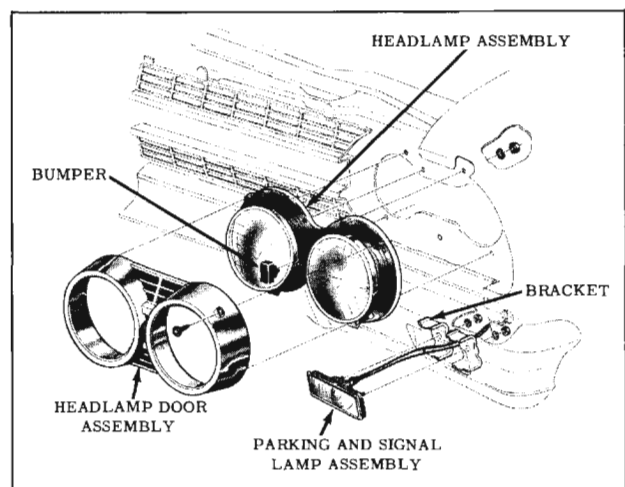

Fig. 14-139 Headlamp Door Removal
1. Remove headlamp door. (Fig. 14-139)
3. Remove 2 retaining ring attaching screws, but DO NOT DISTURB THE ADJUSTING SCREWS. (Fig. 14-139)